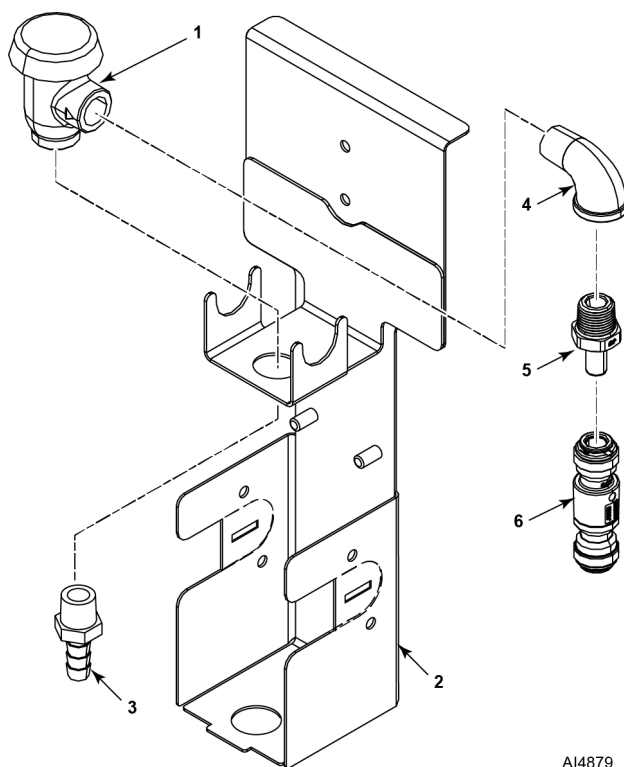

Fig. 6
- B. Thread street elbow (4, Fig. 6) into vacuum breaker (1) until tight. Make sure elbow opening points straight down.
- C. Place vacuum breaker (1, Fig. 6) in DWT bracket assembly (2). Make sure elbow is in correct position for install location.
- D. Thread hose fitting (3, Fig. 6) into vacuum breaker (1) until tight.
- E. Thread pipe adapter (5, Fig. 6) into street elbow (4) until tight.
- F. Install quick-connect check valve (6, Fig. 6) on pipe adapter (5).